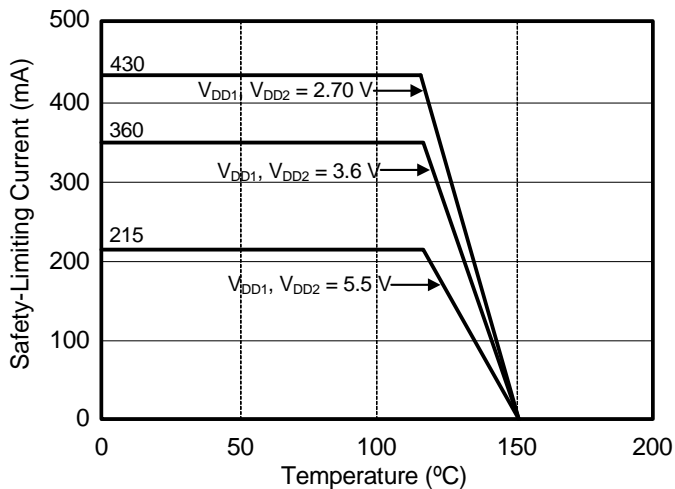

Figure 2. (NB SOIC-16) Thermal Derating Curve, Dependence of Safety Limiting Values with Case Temperature per DIN EN 60747-5-2
- Maximum value allowed in the event of a failure; also see the thermal derating curve in Figure 2.